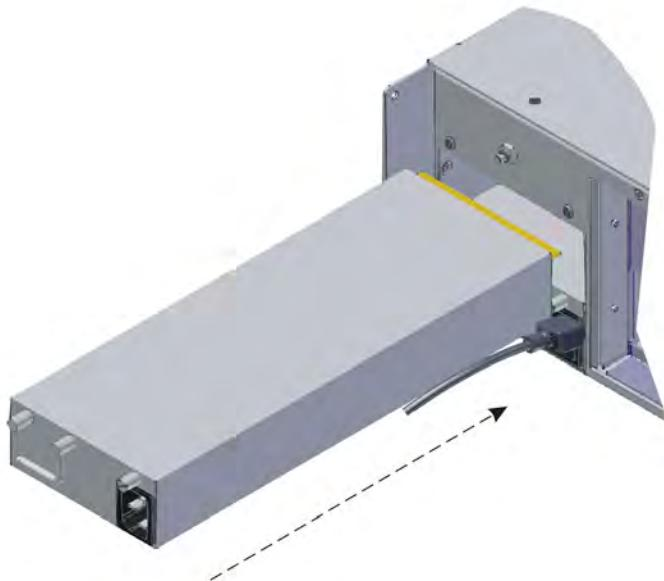

Figure 3-16 Install New Power Supply
4. Position the replacement unit squarely within its slot and push it along the guiding surface until it snaps into place, as shown in Figure 3-16.